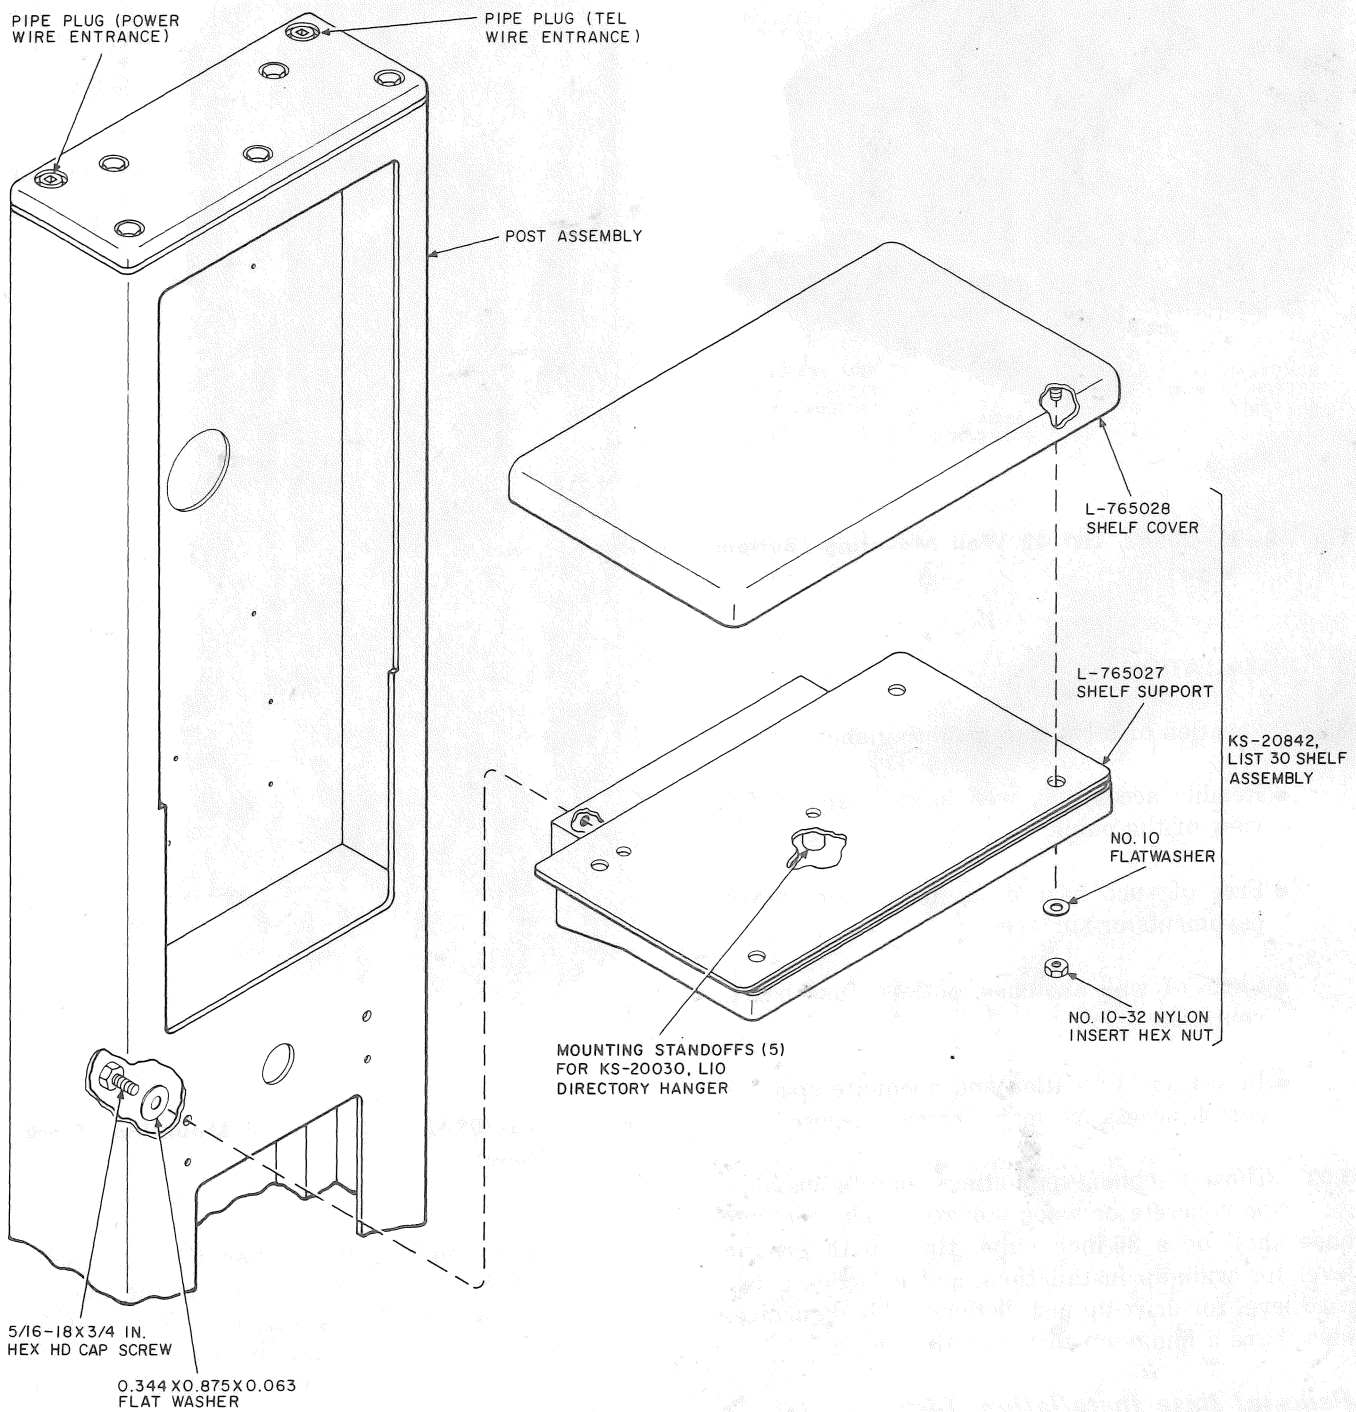

Fig. 11—Installation of List 30 Shelf on Post
2.31 The power wiring feeds up through a rectangular entrance hole when coming from below ground level (Fig. 10), or when entering from overhead, follows a channel down the left side of the post (Fig. 11).
3.05 Install the List 30 shelf (Fig. 11) on the List 40 post as follows:
- (1) If the front panel is installed on the post, remove the panel as outlined in 3.03(9).
- (2) Remove the two 5/16-18 by 3/4 hex head cap screws and two (0.344 by 0.875 by 0.063) flatwashers from the rear of the shelf assembly.
- (3) Align the holes in the rear of the shelf with the mounting holes on the front of the post (Fig. 11). Using the screws and washers removed in step (2), reach in through the opening under the shelf, and insert the screws through the post and into the rear of the shelf. Tighten the screws to secure the shelf.